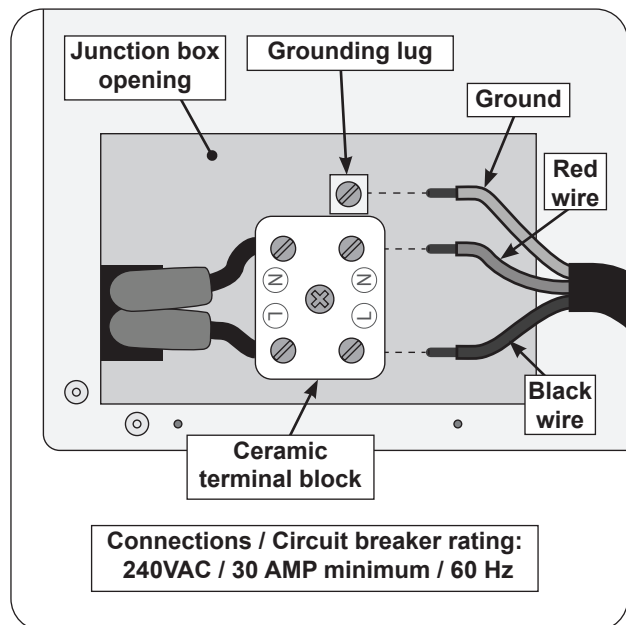

Fig. 24-2 Wire connection diagram
3. Connect the wires to the ceramic terminal block. Reference the wiring information below and Fig. 24-2.